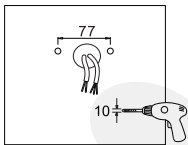

Figure 6-1
Step 1: Drill holes on the wall as shown.(Figure 6-1)